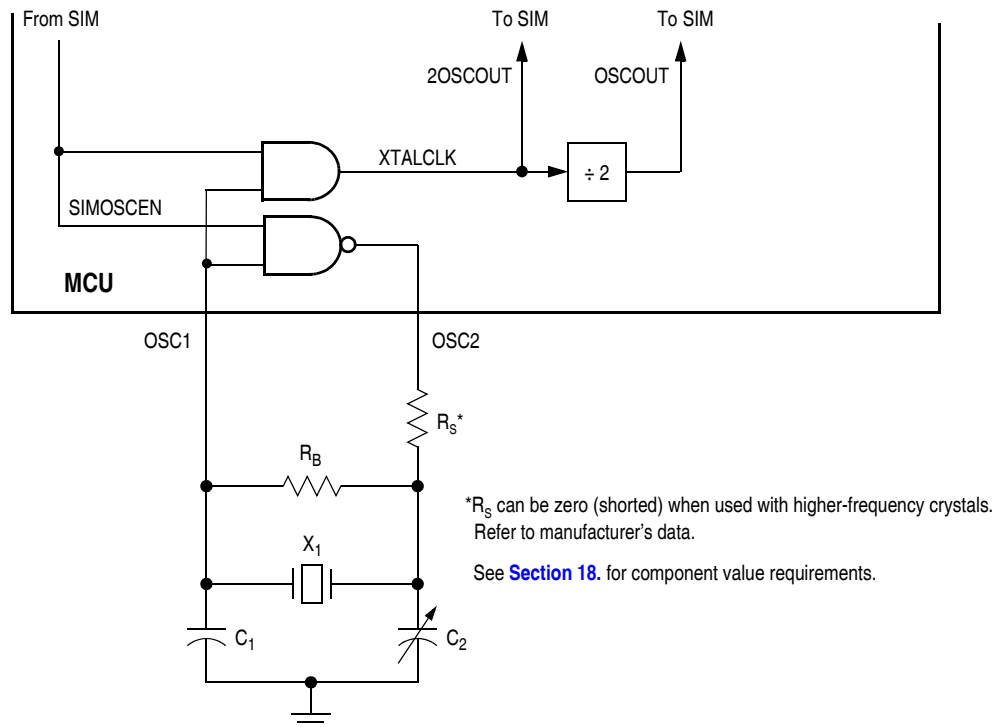

Figure 8-1. X-tal Oscillator External Connections
In its typical configuration, the X-tal oscillator is connected in a Pierce oscillator configuration, as shown in **Figure 8-1**. This figure shows only the logical representation of the internal components and may not represent actual circuitry. The oscillator configuration uses five components:
XTALCLK is the X-tal oscillator output signal. It runs at the full speed of the crystal (f_{XCLK}) and comes directly from the crystal oscillator circuit. **Figure 8-1** shows only the logical relation of XTALCLK to OSC1 and OSC2 and may not represent the actual circuitry. The duty cycle of XTALCLK is unknown and may depend on the crystal and other external factors. Also, the frequency and amplitude of XTALCLK can be unstable at start-up.
2. XTALCLK is the X-tal oscillator output, for MC68HC908xxx. See Figure 8-1.